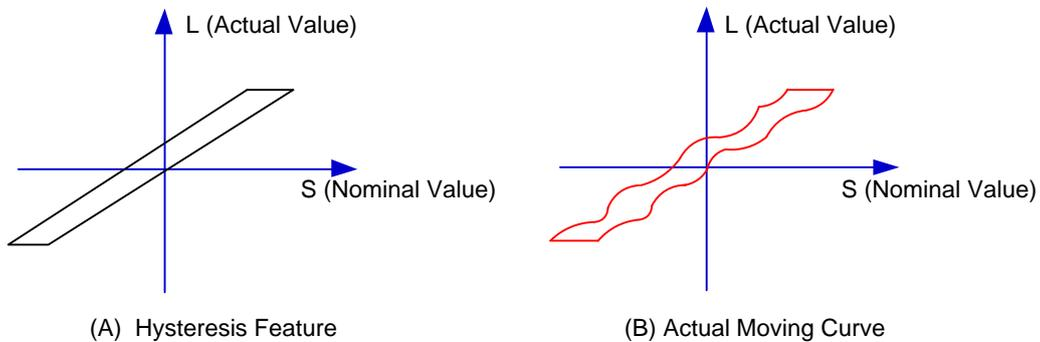

Fig. 3-70 Analysis of backlash
Hysteresis feature is caused by forward and reverse clearance. Assume that driving shaft drives driven shaft in negative (CW) rotation, servo motor will be idling without moving worktable because of mechanical driving chain backlash, when the driving shaft suddenly begins CCW rotation (positive motion). After staying at a certain position for some time, the worktable will move backward with the driving shaft; when the direction of the driving shaft changes again, the situation is the same, which is called Hysteresis. If pitch error doesn't exist, under ideal condition, the moving curve of worktable is shown in Fig. 3-70(A), in which the curve of horizontal section is during the idling of servo motor without worktable movement. The actual moving curve of worktable is shown in Fig. 3-70 (B).